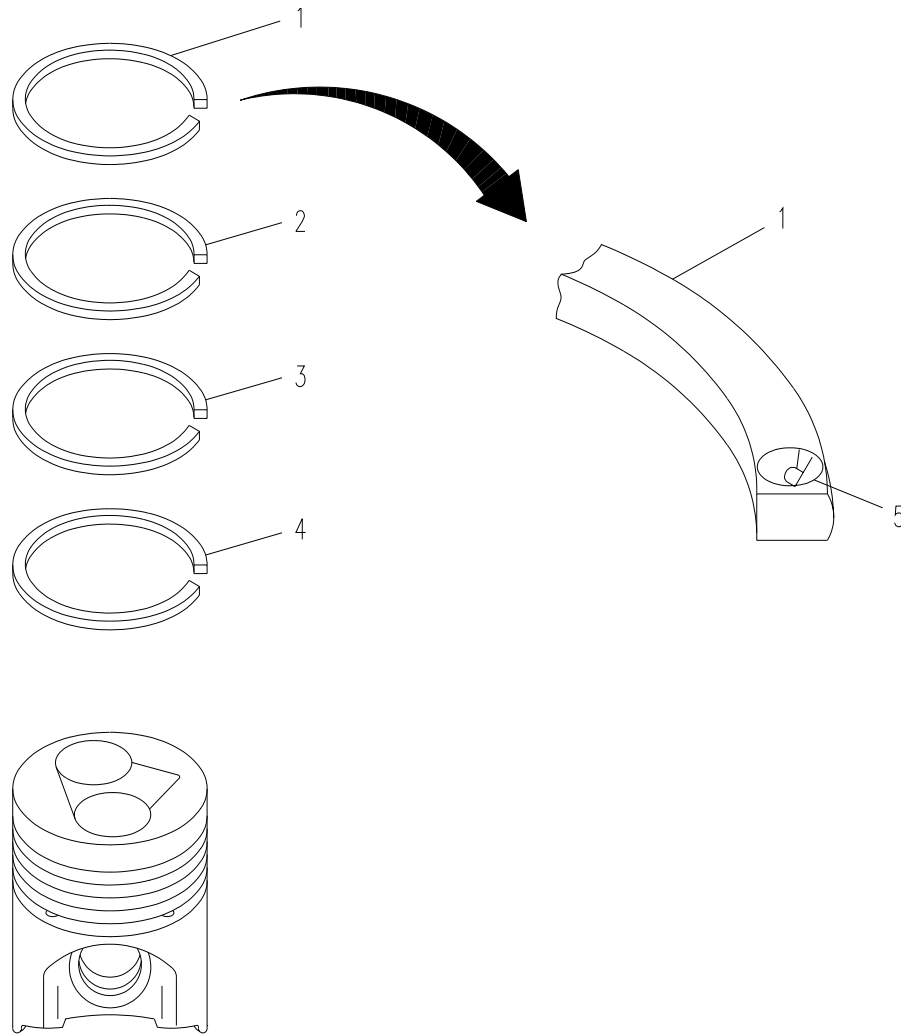

Figure 6-21. Piston Rings (Sheet 3 of 4)
- b. Refer to Figure 6-21 (sheets 3 and 4) and use ring expander to install two compression rings (1 and 2), expander joint (3), and oil ring (4). Proceed as follows: